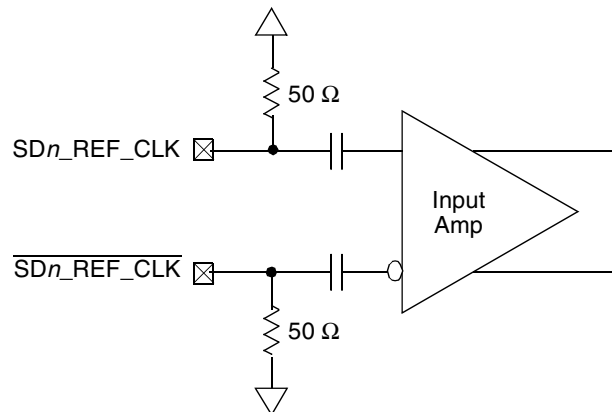

Figure 52. Receiver of SerDes Reference Clocks
Figure 52 shows a receiver reference diagram of the SerDes reference clocks.
- The SDn_REF_CLK and $\overline{SDn_REF_CLK}$ are internally AC-coupled differential inputs as shown in Figure 52. Each differential clock input (SDn_REF_CLK or $\overline{SDn_REF_CLK}$) has a 50 Ω termination to SGND_SRDSn (xcorevss) followed by on-chip AC-coupling.